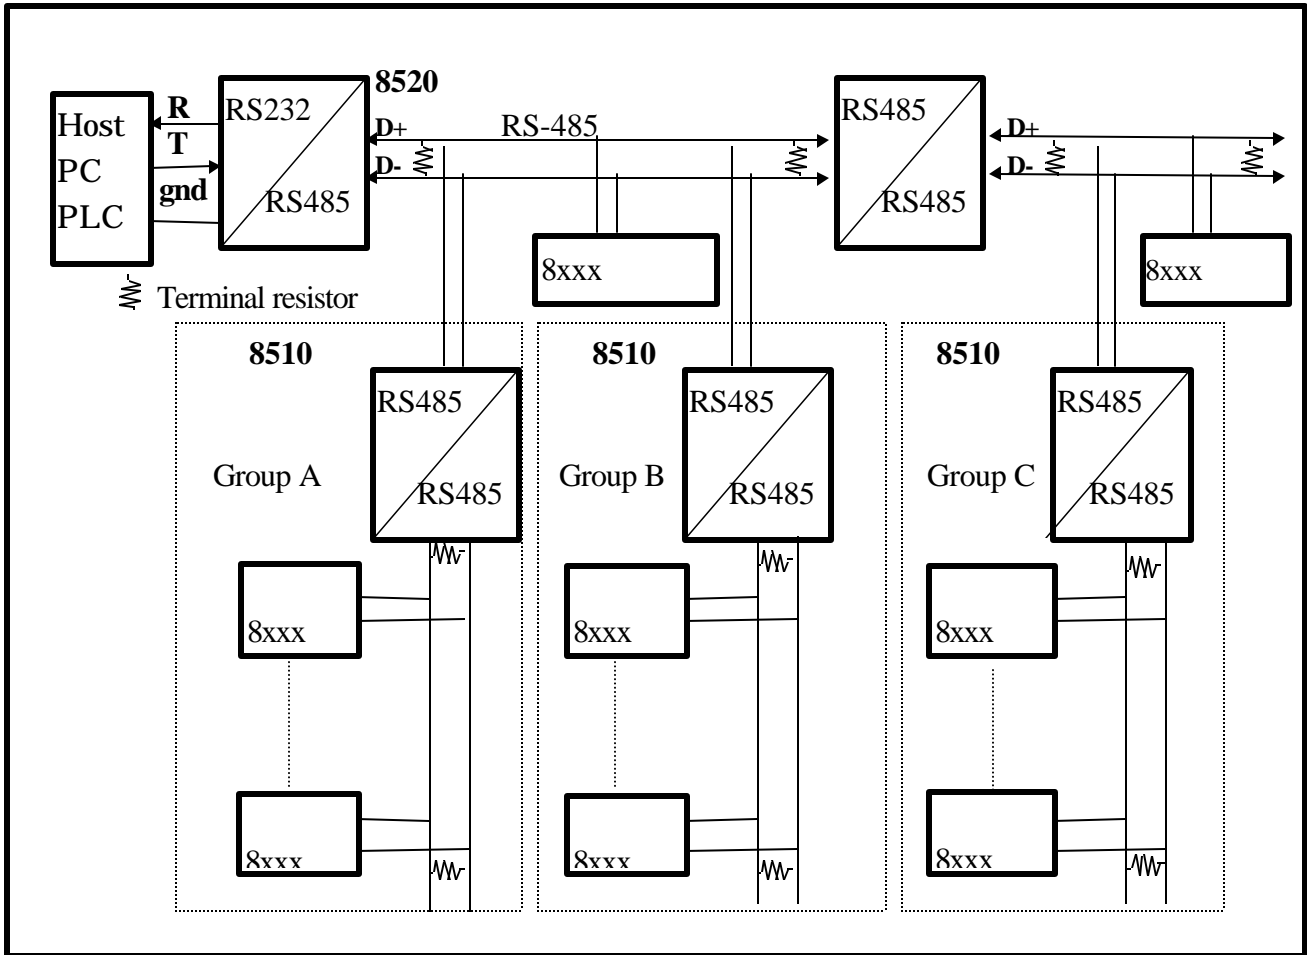

Figure 3.1.2 Isolated 8000 Network Configuration (Preferred)
For example, in Figure 3.1.2 above, the three 8510 modules are used to isolate local modules from the main RS-485 network. By creating several short RS-485 network paths with the repeaters protects all the modules from being damaged due to any high energy transients on the RS-485 network.
- (2) Use 8000Util to select the module and run communication for an eight hour period.
- (3) If 8000Util returns numerous communication errors, use a scope to check the waveform. Depending on whether the scope shows that the terminal resistor is too small or too large (see figure 3.1.2 above) change the resistor and perform another 8 hour test..
- (4) When the appropriate resistor values are determined, run the communication test for one more uninterrupted eight hour stretch.